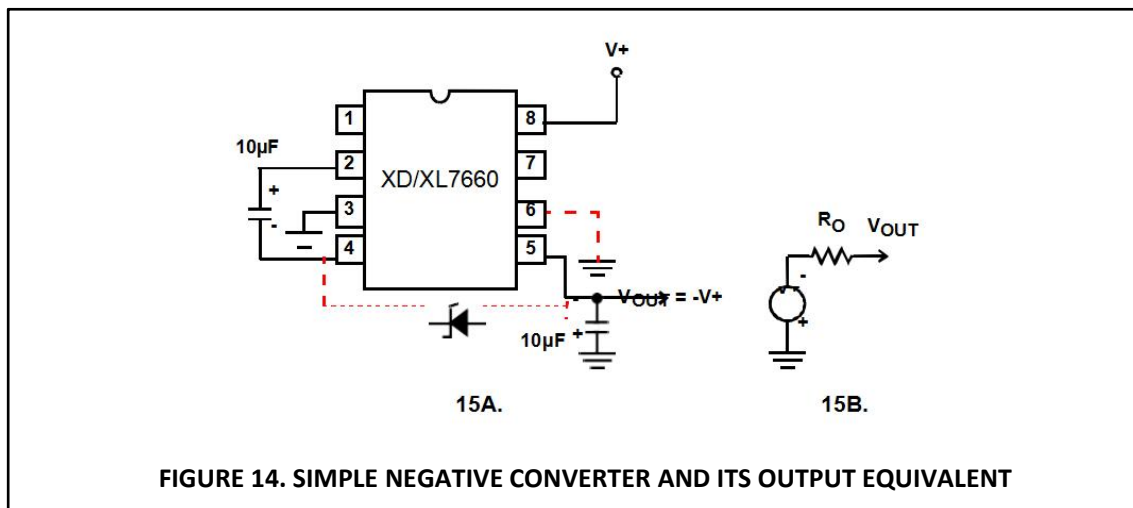

FIGURE 14. SIMPLE NEGATIVE CONVERTER AND ITS OUTPUT EQUIVALENT
The majority of applications will undoubtedly utilize the XD/XL7660 for generation of negative supply voltages. Figure 14 shows typical connections to provide a negative supply where a positive supply of +1.5V to +10V is available. Keep in mind that pin 6 (LV) is tied to the supply negative (GND) for supply voltage below 3.5V.
Figure 18 combines the functions shown in Figure 14 and Figure 17 to provide negative voltage conversion and positive voltage doubling simultaneously. This approach would be suitable, for example, for generating +9V and -5V from an existing +5V supply. In this instance, capacitors C1 and C3 perform the pump and reservoir functions, respectively, for negative voltage generation, while capacitors C2 and C4 are pump and reservoir, respectively, for the doubled positive voltage. There is a penalty in this configuration which combines both functions, however, in that the source impedances of the generated supplies will be somewhat higher, due to the finite impedance of the common charge pump driver at pin 2 of the device.
The bidirectional characteristics can also be used to split a high supply in half, as shown in Figure 19. The combined load will be evenly shared between the two sides, and a high value resistor to the LV pin ensures start-up. Because the switches share the load in parallel, the output impedance is much lower than in the standard circuits, and higher currents can be drawn from the device. By using this circuit, and then the circuit of Figure 14, +15V can be converted, via +7.5 and -7.5, to a nominal -15V, although with rather high series output resistance (~250 Ω)